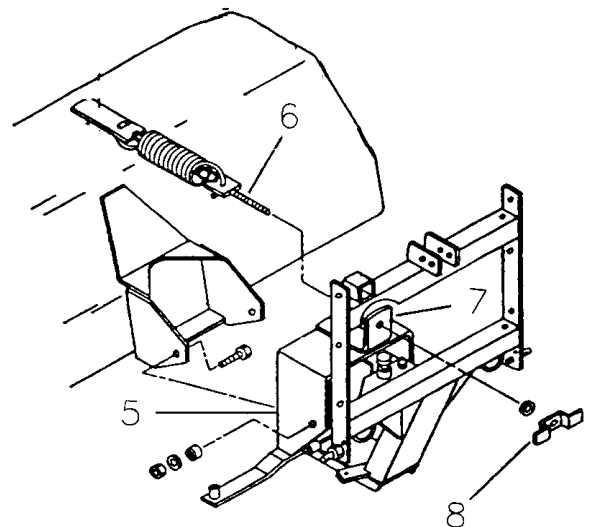

Figure 2
2. Assemble frame (fig.2, item 5) to rotary broom using the two 1/2" x 1 3/4" bolts, bushings, 9/16" hole flat washers and 1/2"NC nylon lock nuts.
3. Insert threaded end of upper spring assembly (fig.2, item 6) through weldment (fig.2,item 7), and secure with the handle (fig.2, item 8).